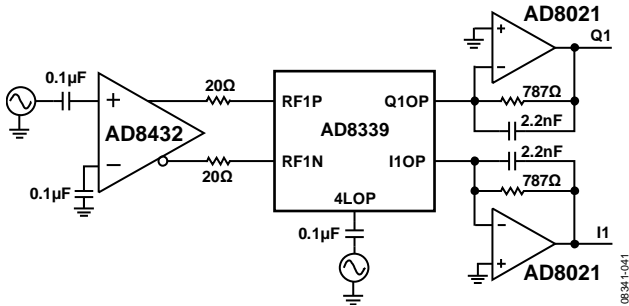

Figure 65. Block Diagram of AD8432 + AD8339 Application for Ultrasound Beamforming
Figure 65 shows a simplified block diagram of one channel of the AD8432 driving the AD8339. The AD8432 outputs can be connected directly to the AD8339 RF inputs through 20 Ω
In beamforming applications, the I and Q outputs of a number of receiver channels are summed, which increases the system dynamic range by 10 log₁₀ (N), N being the number of channels being summed. The external RC feedback network of the AD8021 is a 100 kHz low-pass filter as shown in Figure 65. Refer to the AD8333 and AD8339 datasheets for more details on implementing I/Q demodulators.